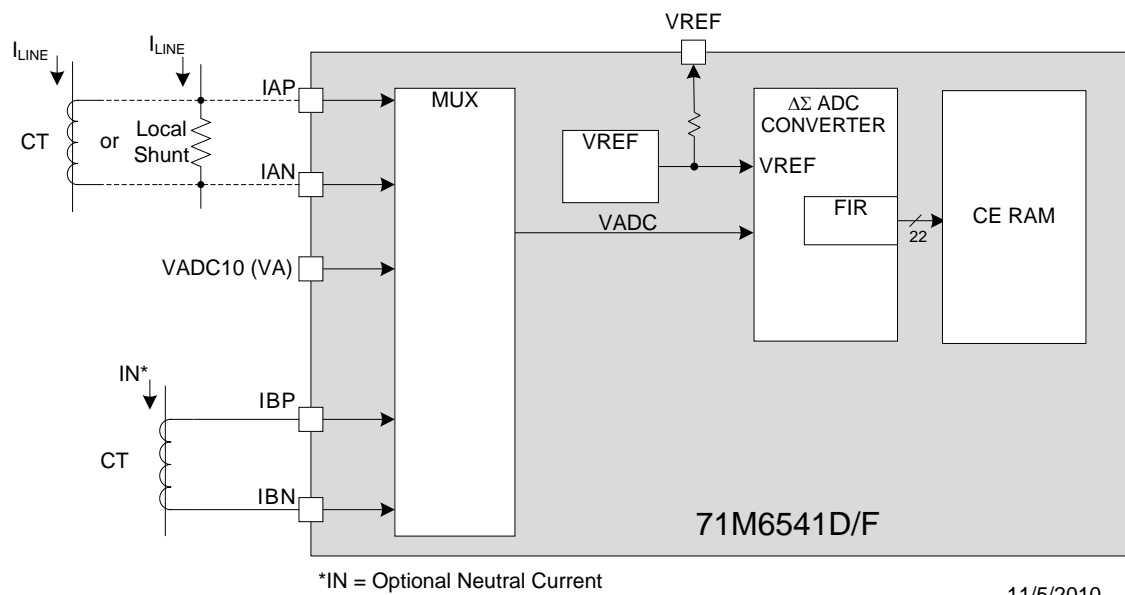
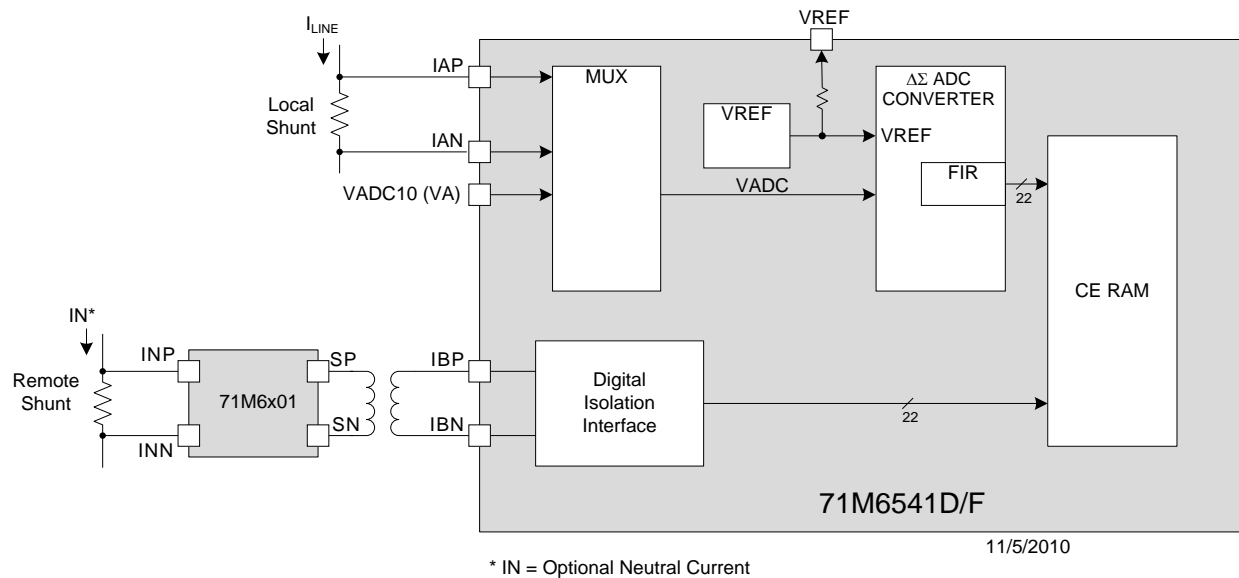
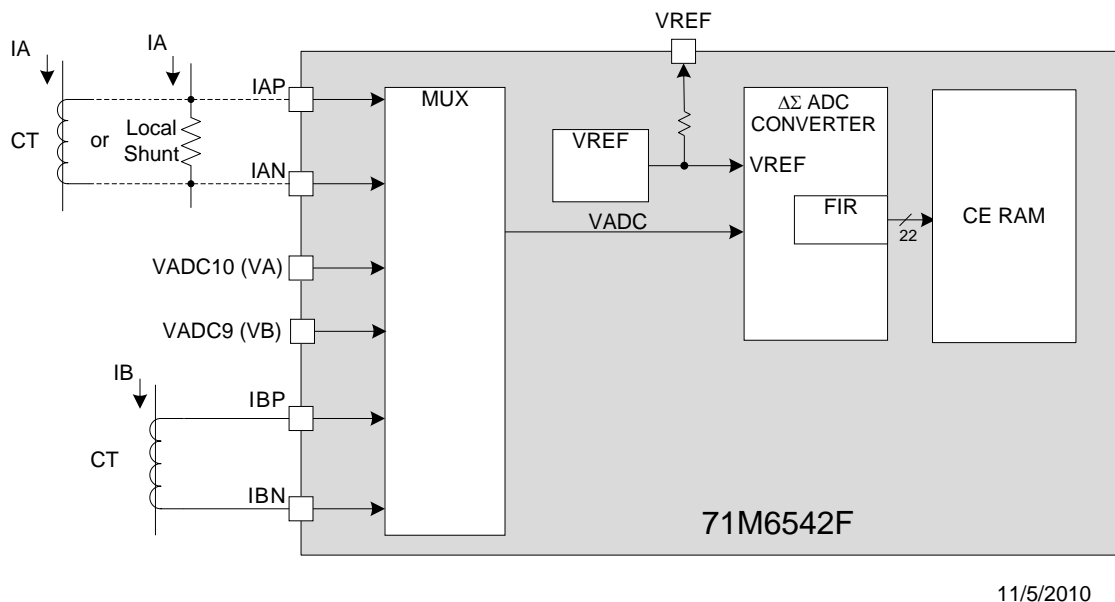
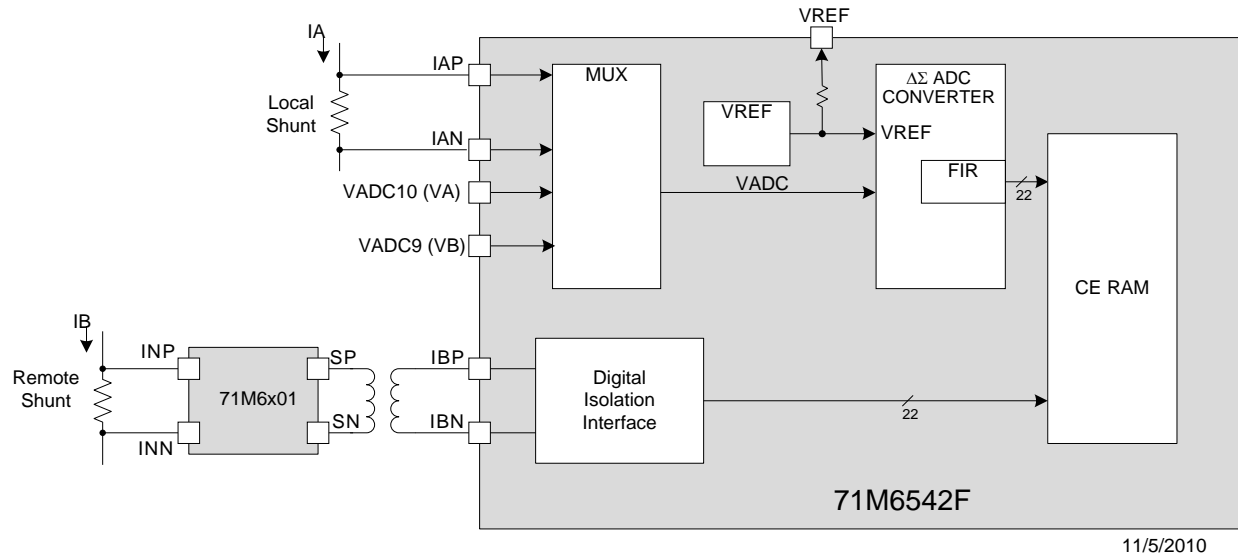

Figure 2. 71M6541D/F AFE Block Diagram (Local Sensors)
Figure 3. 71M6541D/F AFE Block Diagram with 71M6x01
Figure 4. 71M6542F AFE Block Diagram (Local Sensors)
Figure 5. 71M6542F AFE Block Diagram with 71M6x01
The AFE functions as a data acquisition system, controlled by the MPU. When used with locally connected sensors, as seen in Figure 2, the analog input signals (IAP-IAN, VA and IBP-IBN) are multiplexed to the ADC input and sampled by the ADC. The ADC output is decimated by the FIR filter and stored in CE RAM where it can be accessed and processed by the CE.
See Figure 6 for the multiplexer sequence corresponding to Figure 2. See Figure 35 for the meter configuration corresponding to Figure 2.
Figure 3 shows the 71M6541D/F multiplexer interface with one local and one remote resistive shunt sensor. As seen in Figure 3, when a remote isolated shunt sensor is connected via the 71M6x01, the samples associated with this current channel are not routed to the multiplexer, and are instead transferred digitally to the 71M6541D/F via the digital isolation interface and are directly stored in CE RAM.
See Figure 6 for the multiplexer timing sequence corresponding to Figure 3. See Figure 36 for the meter configurations corresponding to Figure 3.
Figure 4 shows the 71M6542F AFE with locally connected sensors. The analog input signals (IAP-IAN, VA, IBP-IBN and VB) are multiplexed to the ADC input and sampled by the ADC. The ADC output is decimated by the FIR filter and stored in CE RAM where it can be accessed and processed by the CE.
See Figure 7 for the multiplexer timing sequence corresponding to Figure 4. See Figure 37 for the meter configuration corresponding to Figure 4.
Figure 5 shows the 71M6542F multiplexer interface with one local and one remote resistive shunt sensor. As seen in Figure 5, when a remote isolated shunt sensor is connected via the 71M6x01, the samples associated with this current channel are not routed to the multiplexer, and are instead transferred digitally to the 71M6542F via the digital isolation interface and are directly stored in CE RAM.
See Figure 6 for the multiplexer timing sequence corresponding to Figure 5. See Figure 38 for the meter configurations corresponding to Figure 5.
All analog signal input pins measure voltage. In the case of shunt current sensors, currents are sensed as a voltage drop in the shunt resistor sensor. Referring to Figure 3, shunt sensors can be connected directly to the 71M654x (referred to as a 'local' shunt sensor) or connected via an isolated 71M6x01 (referred to as a 'remote' shunt sensor). In the case of Current Transformers (CT), the current is measured as a voltage across a burden resistor that is connected to the secondary winding of the CT. Meanwhile, line voltages are sensed through resistive voltage dividers. The VA and VB pins (VB is available in the 71M6542F only) are single-ended and their common return is the V3P3A pin.
For the 71M654x application utilizing two shunt resistor sensors (Figure 3), the IAP-IAN pins are configured for differential mode to interface to a local shunt by setting the *DIFFA\_E* control bit. Meanwhile, the IBP-IBN pins are re-configured as digital balanced pair to communicate with a Teridian 71M6x01 Isolated Sensor interface by setting the *RMT\_E* control bit (*I/O RAM 0x2709[3]*). The 71M6x01 communicates with the 71M654x using a bi-directional digital data stream through an isolating low-cost pulse transformer. The 71M654x also supplies power to the 71M6x01 through the isolating transformer. This type of interface is further described at the end of this chapter (see 2.2.8 71M6x01 Isolated Sensor Interface (Remote Sensor Interface)).
For use with Current Transformers (CTs), as shown in Figure 2, the *RMT\_E* control bit is reset, so that the IBP-IBN pins are configured as local analog inputs. The IAP-IAN pins cannot be configured as a remote sensor interface.
When operating with local sensors, the input multiplexer sequentially applies the input signals from the analog input pins to the input of the ADC (see Figure 2 and Figure 4). One complete sampling sequence is called a multiplexer frame. The multiplexer of the 71M6541D/F can select up to three input signals (IAP-IAN, VA, and IBP-IBN) per multiplexer frame as controlled by the I/O RAM control field *MUX\_DIV[3:0]* (*I/O RAM 0x2100[7:4]*) (see Figure 6). The multiplexer of the 71M6542F adds the VB signal to achieve a total of four inputs (see Figure 7). The multiplexer always starts at state 1 and proceeds until as many states as determined by *MUX\_DIV[3:0]* have been converted.
The 71M6541D/F and 71M6542F each require a unique CE code that is written for the specific application. Moreover, each CE code requires specific AFE and MUX settings in order to function properly. Table 1 provides the CE code and settings corresponding to the local sensor configurations shown in Figure 2 and Figure 4. Table 2 provides the CE code and settings corresponding to the local/remote sensor configuration utilizing the 71M6x01 as shown in Figure 3 and Figure 5.
For a standard single-phase application with tamper sensor in the neutral path, two current inputs can be configured for differential mode, using the pin pairs IAP-IAN and IBP-IBN. This means that the multiplexer applies a total of three inputs to the ADC. In this application, the system design may use two locally connected current sensors via IAP-IAN and IBP-IBN, as shown in Figure 2, and configured as differential inputs. Alternately, the IAP-IAN pin pair is configured as a differential input and connected to a local current shunt, and IBP-IBN is configured to connect to an isolated 71M6x01 isolated sensor (i.e., *RMT\_E* = 1), as shown in Figure 3. The VA pin is typically connected to the phase voltage via resistor dividers. For this configuration, the multiplexer frame is also as shown in Figure 6 and time slot 2 is unused and ignored by the CE, as the samples corresponding to the remote sensor (IBP-IBN) do not pass through the multiplexer and are stored directly in CE RAM. The remote current sensor channel is sampled during the second half of the multiplexer frame and its timing relationship to the VA voltage is precisely known so that delay compensation can be properly applied.
The 71M6542F adds the ability to sample a second phase voltage (applied at the VB pin), which makes it suitable for meters with two voltage and two current sensors, such as meters implementing Equation 2 for dual-phase operation ( $P = VA \cdot IA + VB \cdot IB$ ). Figure 7 shows the multiplexer sequence when four inputs are processed with locally connected sensors, as shown in Figure 3. When using one local and one remote sensor (Figure 5), the multiplexer sequence is also as shown in Figure 7.